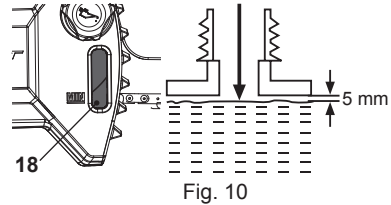

Fig. 10
- Don't fill the oil lower than the "MIN" mark on the oil level window (18), but also do not overfill or and leave approximately 5 mm of space between the top of the oil and the inside edge of the tank to allow for expansion (Fig. 10).